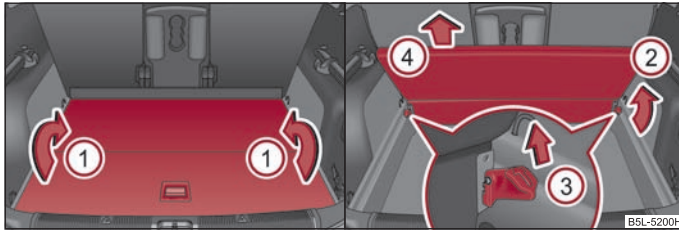

Fig. 76 Luggage compartment: Fold up variable loading floor/remove
- You can fold together the loading floor by moving it in direction of arrow ① ⇒ fig. 76.
- Raise the variable loading floor in direction of arrow ② ⇒ fig. 76.
- Pull on both sides of the locking levers in direction of arrow ③ ⇒ fig. 76.
- Pull the variable loading floor up and out in direction of arrow ④.